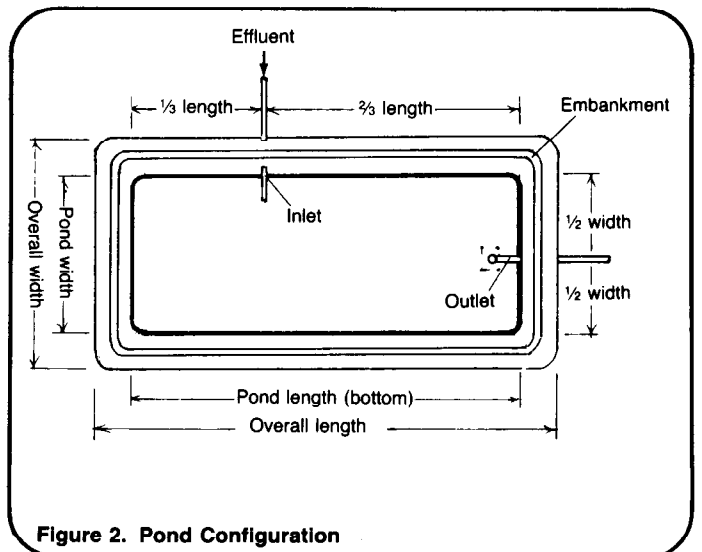

Figure 2. Pond Configuration
2. Design drawing of the pond, similar to Figure 2;